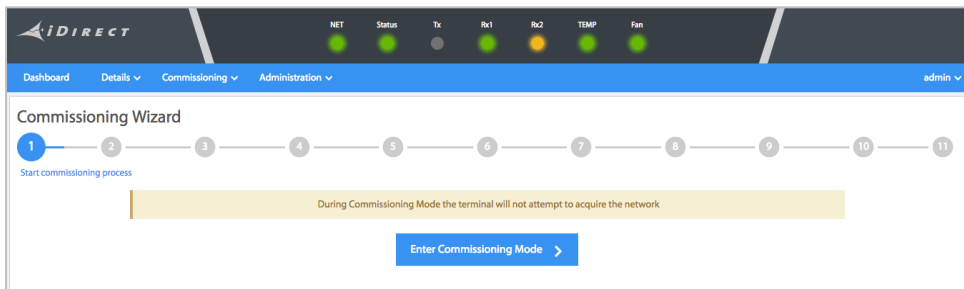

Figure 3 — Commissioning Wizard Step 1 (iDirect Commissioning Mode)
9. Click the **Enter Commissioning Mode >** button, as shown in **Figure 3**.